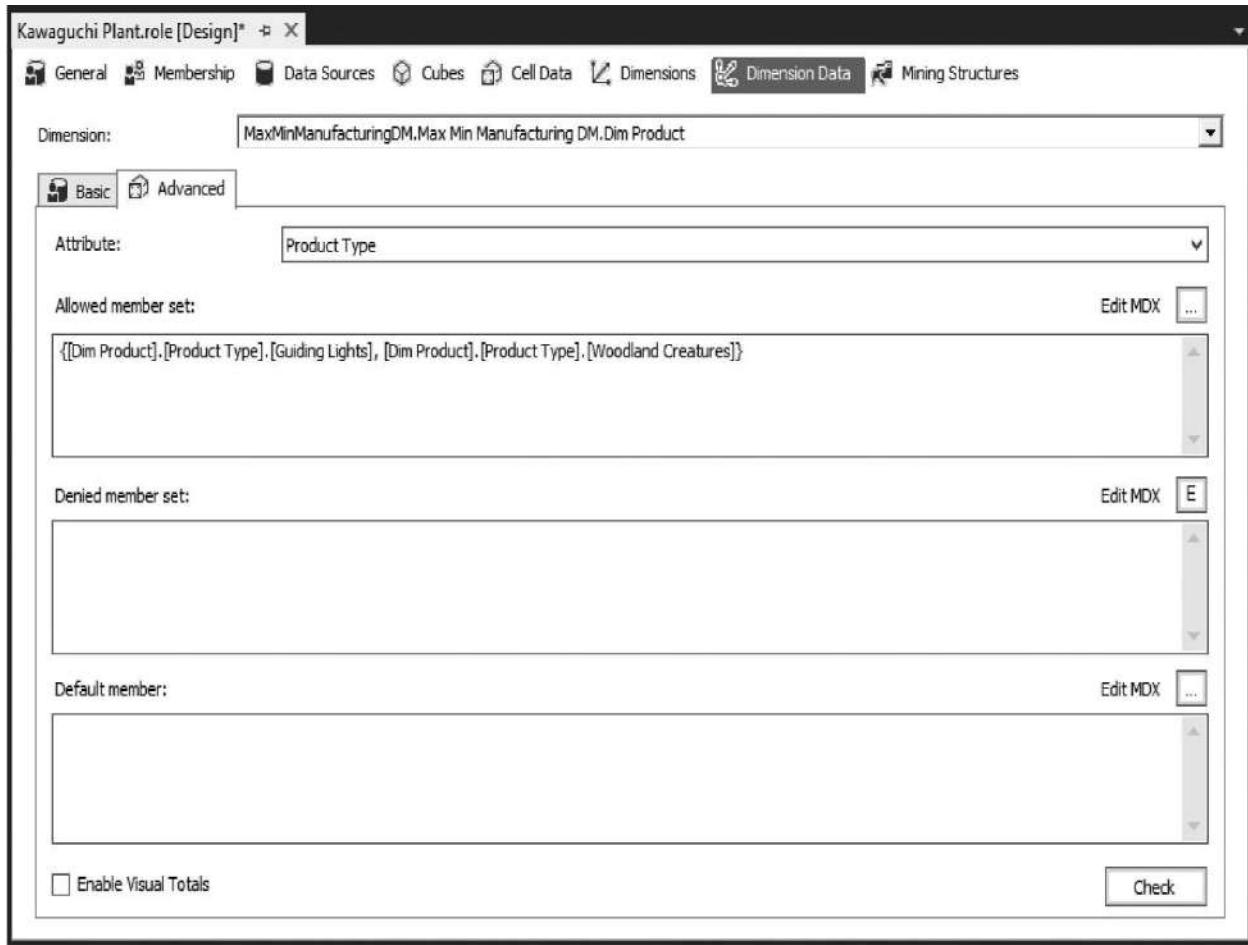

**Figure 13-26** The Basic tab of the Dimension Data tab of the Role Design tab
17. Select Plant from the Attribute Hierarchy drop-down list. Click the Deselect all members radio button on the left side of the tab. Check the Maximum Miniatures—Kawaguchi member. The Basic tab of the Dimension Data tab is shown in Figure 13-26.